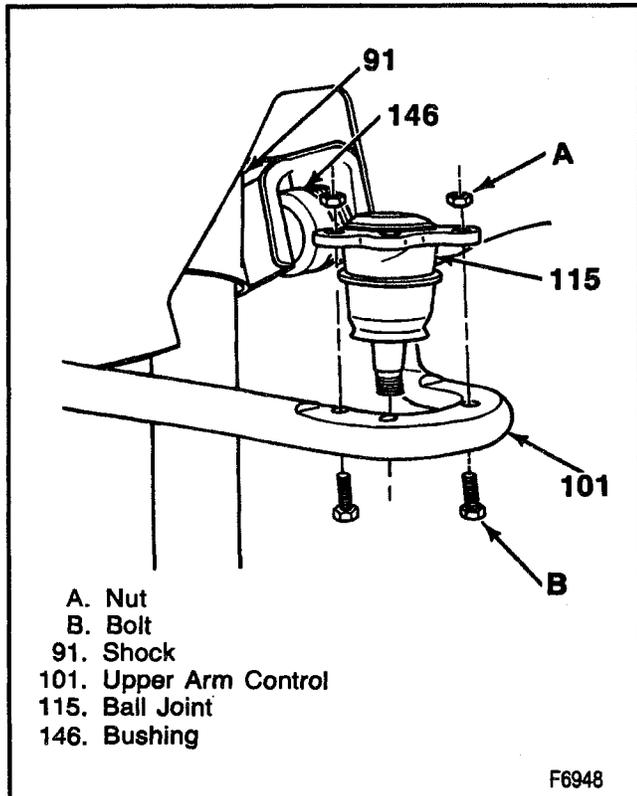

Figure 37—Installing the Upper Ball Joint
2. Bolts (B) and nuts (A) to the ball joint (Figure 37).